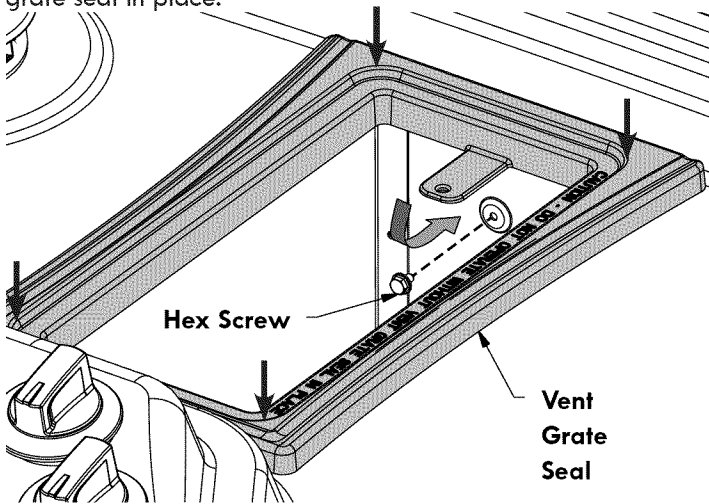

Figure 1A - 30" Model
**CAUTION** After cleaning the vent grate seal, make sure the vent grate seal is properly reinstalled in the cooktop as shown in Figures 1A - 1B. Make sure the collar is fully inserted into the vent opening. Fasten the tab on the vent grate seal to the vent with the 1/4" hex head screw.